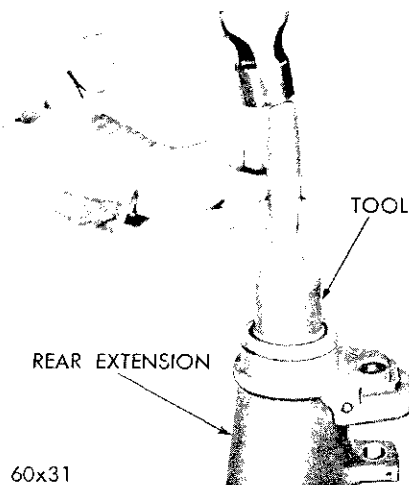

Fig. 25—Installing Output Shaft Rear Bearing Oil Seal
(1) Using driver, Tool C-3691, install the output shaft rear oil seal (with metal portion of seal facing down in housing bore) until tool bottoms on extension, as shown in Figure 25.
(2) Install brake support grease shield on extension housing. Indent on grease shield must match groove in extension for correct positioning. Also, shield must be located on extension far enough to permit installation of spring. Install grease shield spring with opening in spring toward adjusting sleeve.
(3) Reinstall parking brake flange and drum assembly, washer (convex side toward nut) and nut. Apply parking brake or use wrench, Tool C-3281, and tighten nut to 175 foot-pounds torque.
(4) Reconnect front universal joint and tighten bolts 33 to 37 foot-pounds torque. Check the transmission fluid level and refill if necessary.